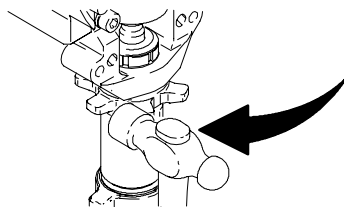

Fig. 18
6. Fig. 18. Loosen locknut with a hammer. Unscrew pump.